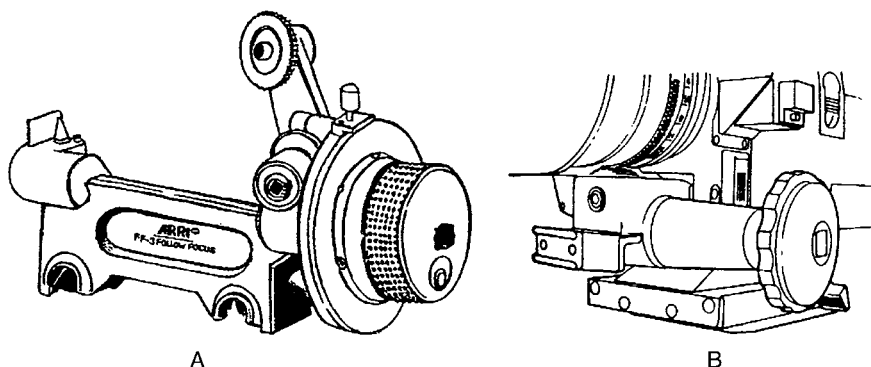

Figure 4.5 A, Arriflex follow focus mechanism. (Courtesy of ARRI Inc.)
- Check to be sure that you have all accessories and that they mount and operate properly (focus whip, speed crank, right-hand extension, focus marking disks, etc.; see Figures 4.5 and 4.6).